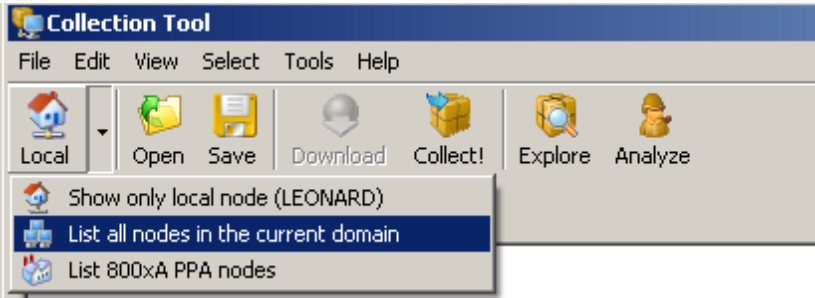

Figure 60. Collection Tool Options
- 3. Click the network type button in the top left corner of the toolbar to change the network type, see Figure 60.